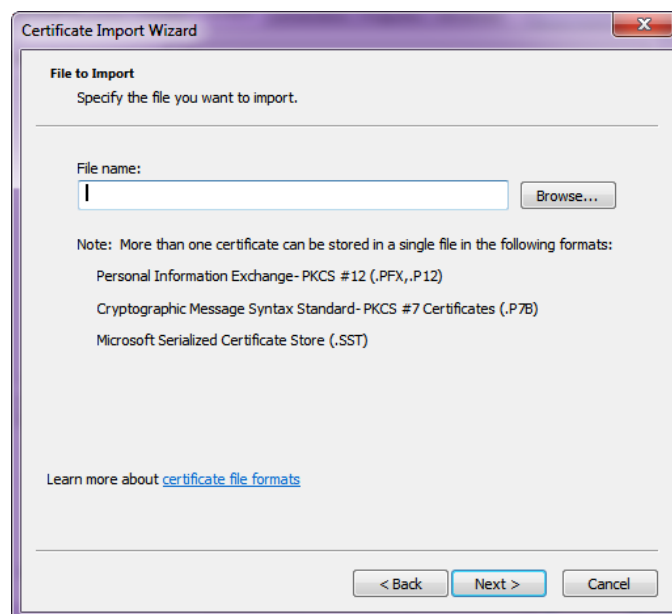

Figure 55: Specify Certificate to Import
6. The dialog show in Figure 55 appears. Browse to the file.